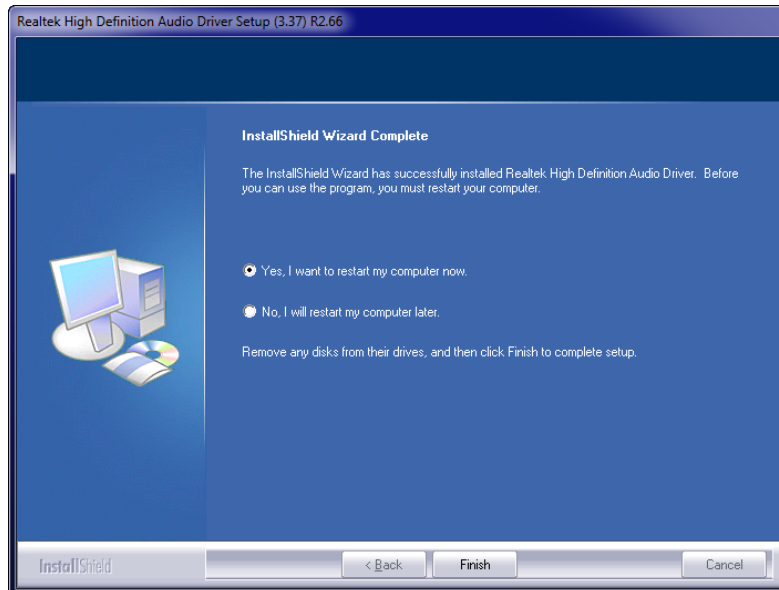

Figure 7-21: Audio Driver Installation Complete
Step 7: When the installation is complete, the screen in **Figure 7-21** appears.